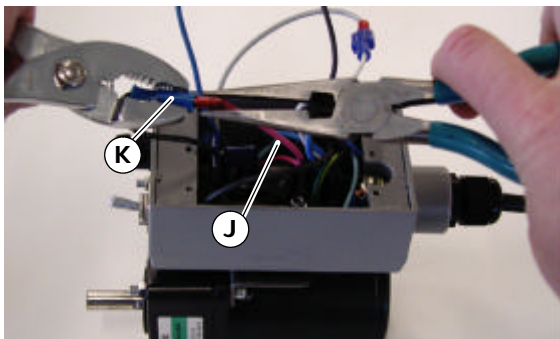

Figure 9
**IMPORTANT: To unplug wires, use pliers to grip terminal leads (as in Figure 9). Do not pull wires.**
6. Unplug red wire (J of Figure 9) from black wire (K).
**IMPORTANT:** To unplug wires, use pliers to grip terminal leads (as in Figure 9). Do not pull wires.